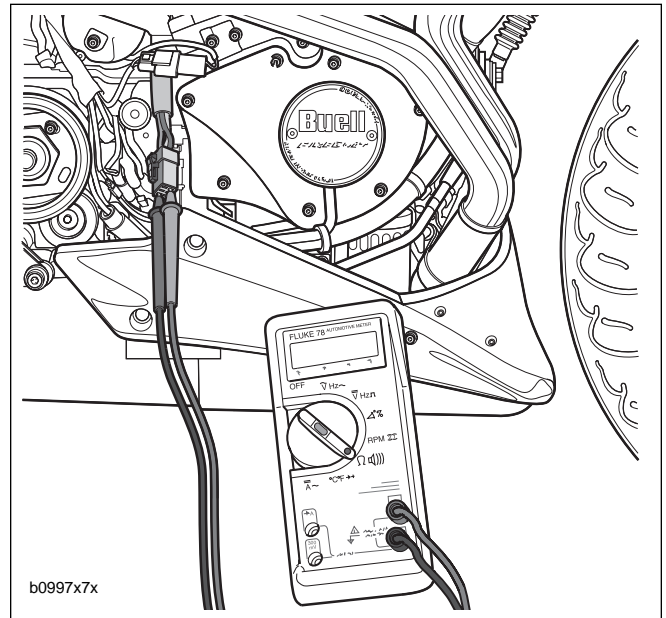

Figure 7-32. Check for Stator Resistance
4. See Figure 7-32. Remove ground lead. Check resistance across stator sockets 1-2, 2-3 and 3-1.